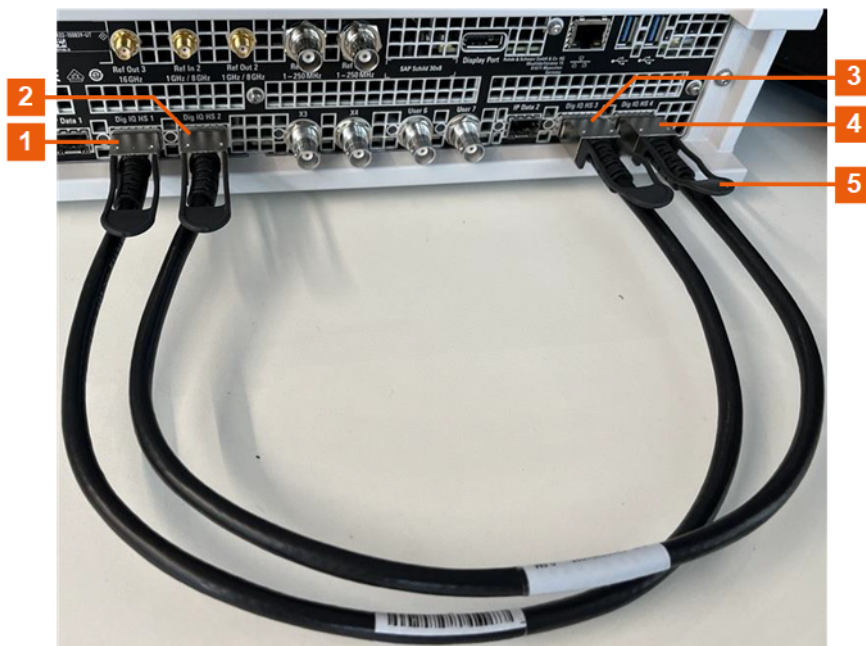

Figure 4-1: QSFP+ connections for I/Q data crosslink
See also (5) in Figure 4-1.
See also (1) and (3) in Figure 4-1.
See also (2) and (4) in Figure 4-1.